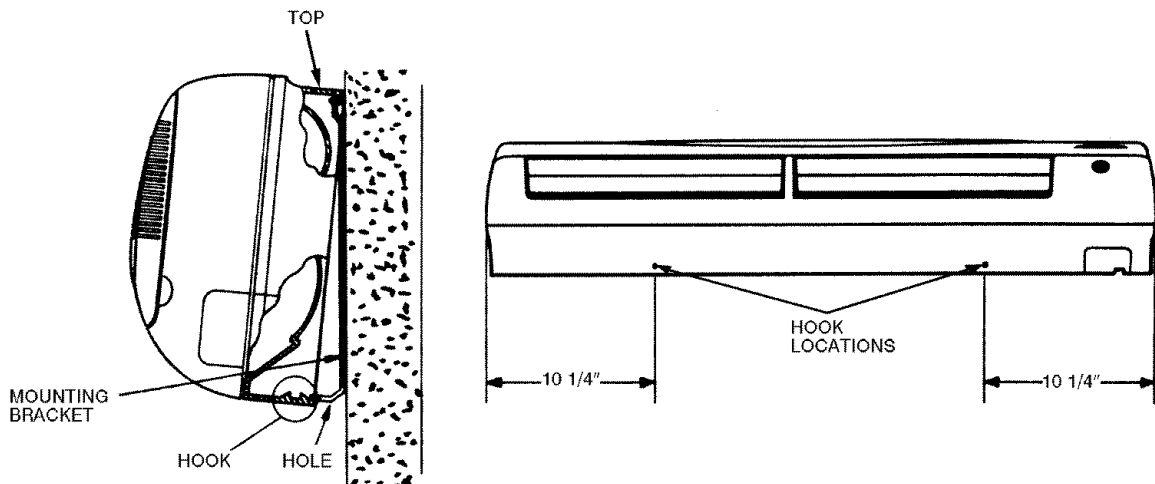

Fig. 15 — Mounting Unit to Bracket
1. Hook the fan coil unit onto the top of the mounting bracket. See Fig. 15.
2. Snap the fan coil unit onto the mounting bracket as shown in Fig. 15.